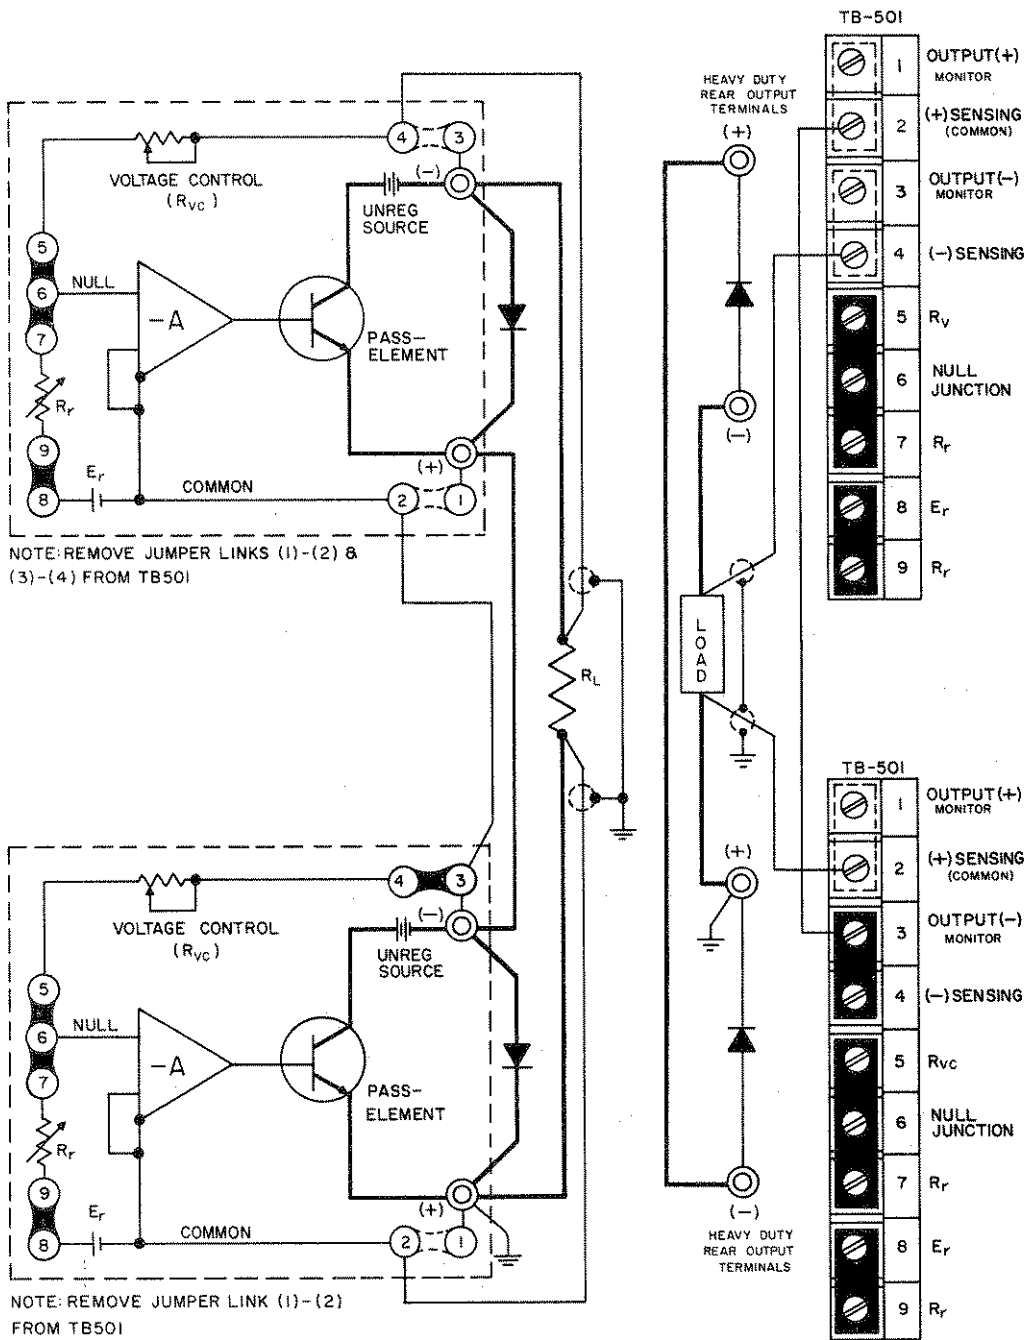
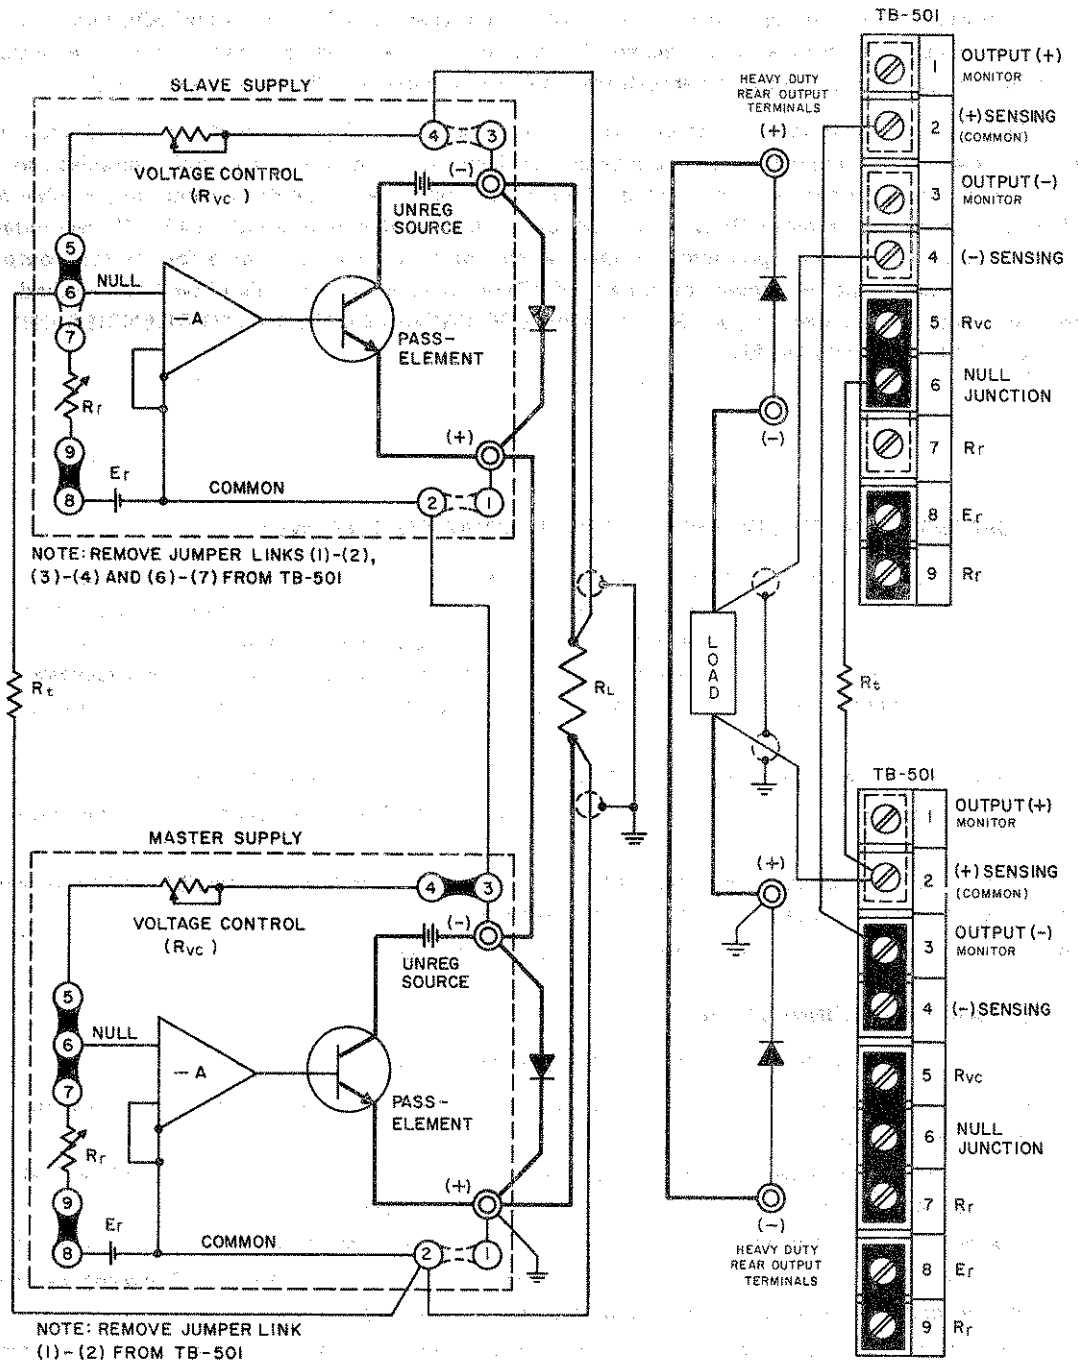

FIG. 3-10 AUTOMATIC SERIES CONNECTION OF KEPKO POWER SUPPLIES
FIG. 3-11 MASTER-SLAVE SERIES CONNECTION OF KEPKO POWER SUPPLIES
3-35 GENERAL. Kepco Power Supplies can be series-connected for increased voltage output, provided the specified limits on voltage to chassis are not exceeded. When series-connected, the supplies should be protected by means of a semiconductor diode across the output terminals of each power supply, as shown in FIG. 3-10. The peak inverse rating of these diodes must be at least as large as the output voltage of the supply to which they are connected. The continuous current rating of the diodes should be at least as great as the largest short-circuit current of the interconnected supplies.
3-36 Two basic series connection methods are generally used, the "Automatic Series Connection", as illustrated in FIG. 3-10, and the "Master-Slave" connection, shown in FIG. 3-11. The basic difference between these two alternate methods lies in the manner of the output control. While in the "Automatic" connection the output of both supplies may be controlled individually, in the "Master-Slave" connection, control is exercised from the "Master" supply alone, while the "Slave" supply follows the master command in a ratio which may be pre-determined by the user. The latter method of series operation is therefore frequently termed "Automatic Tracking".
- a) Connect load as shown in FIG. 3-10. Keep voltage drop in load wires as low as practical by using heavy gauge wire.
3-38 The "Master-Slave" series connection method is illustrated in FIG. 3-11. As seen from the figure, the reference voltage (E_r) of the "Slave" supply is disconnected and its input or null junction is connected to the output of the "Master" supply via the tracking resistor (R_t). The "Slave" supply output is thus completely dependent on the "Master" output voltage:
- a) Connect load as shown in FIG. 3-11. Keep voltage drop in the load wires as low as possible by using heavy gage wire.
- c) Remove jumper links as shown (FIG. 3-11) and connect error sensing leads if remote sensing is desired. Sensing leads should be twisted and shielded.
- d) Select value of the tracking resistor (R_t) and connect with shielded wire as shown (FIG. 3-11).